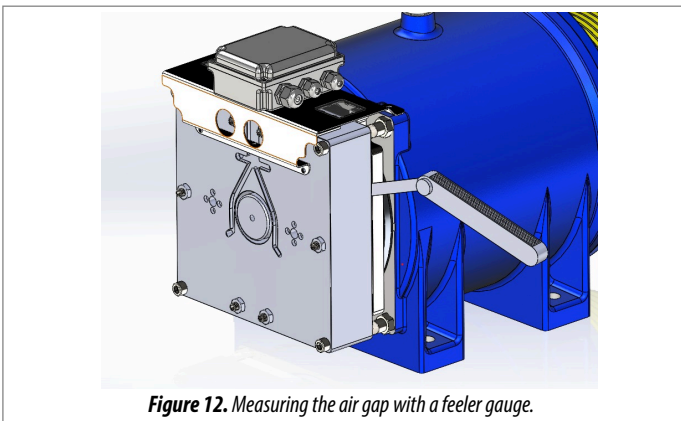
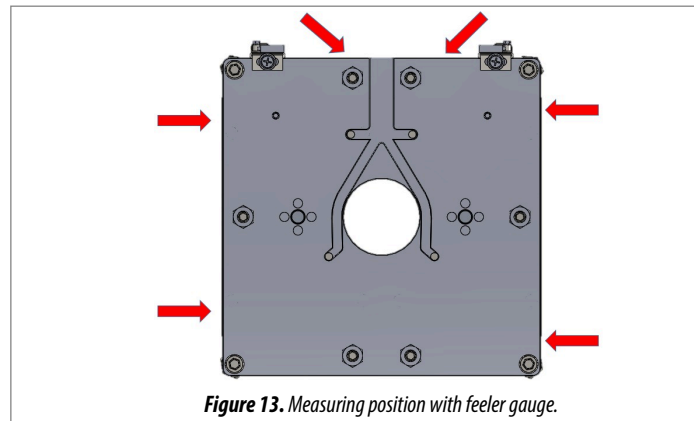

Figure 12. Measuring the air gap with a feeler gauge.
Figure 13. Measuring position with feeler gauge.
Insert a feeler gauge between the split main pressure plate (1) and the coil housing (4) (see **Figure 12**), and measure the air gap. The positions in which the air gap must be measured are indicated in **Figure 13**. Compare the value measured with the correct air gap values indicated in **Table 1**.
The air gap from the points (mirrors) of the centil and the machine in **Figure 13** is checked according to the values given in **Table 1**. If the air gap does not comply with the values in table 1, the following actions are taken. Air gap adjustment procedures are illustrated in **Annexe A**.
The air gap is reduced by tightening the brake adjustment screw counterclockwise and the brake fixing screw clockwise millimetrically. It is checked again at the points in **Figure 13**.
The air gap is increased by loosening the brake adjustment screw clockwise and the brake fixing screw counterclockwise by millimeters. It is checked again at the points in **Figure 13**.